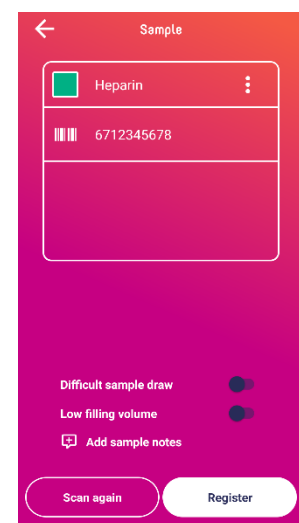

Figure 13. Sample information screen after scanning one sample
- c.** The sample information page will appear after successful scanning, showing, when available (see Figure 13):